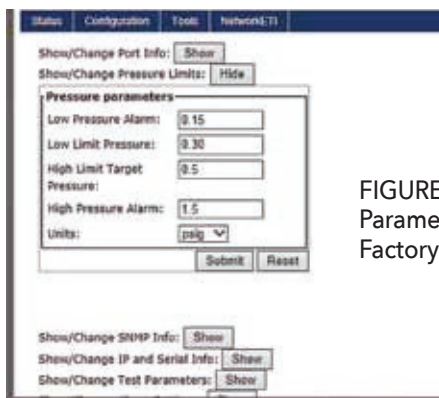

FIGURE 20. Pressure Parameters Page Showing Factory Default Settings.
11. Still on the Configuration Page, click the “SHOW” button next to the “Show/Change Pressure Limits” to select and access Port Information Pressure Limits (Figure 20). If this is a new system, check with your System Administrator to confirm whether the factory default settings are acceptable for use for your system. If the Smart Manifold is replacing an existing dehydrator system and your current system settings have provided satisfactory service, use the current settings you now have set on your existing dehydrator. They can, as needed, be changed later. If using more than one ADH NETCOM dehydrator in your system, make sure that each one is set to the same pressure range parameters as all the others and that all the dehydrators are set to the same pressure range parameters as the Smart Manifold itself. Press SUBMIT when finished.